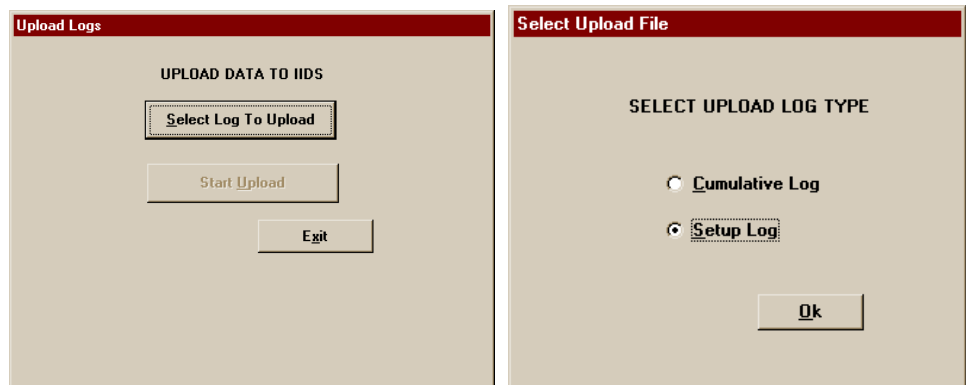

Figure 20. Select Log Type Screens
6. Click on the "Select Log to Upload" control button (refer to Figure 20).